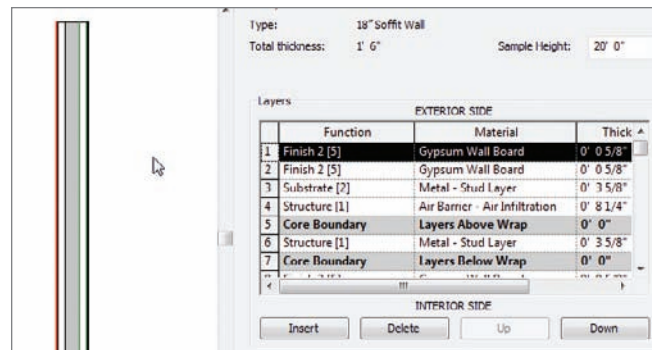

FIGURE 16.22 The walls layers
15. Set Thickness to 3 5/8” (see Figure 16.22).